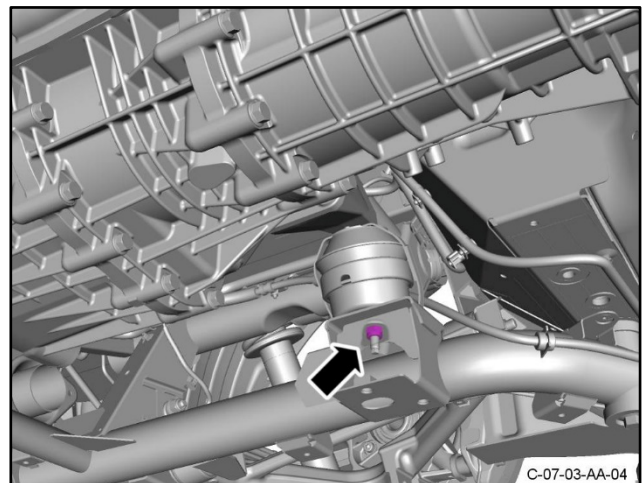

Figure 19
30. Remove the nut that attaches the left-side transaxle mount to the rear subframe (refer to Figure 19).